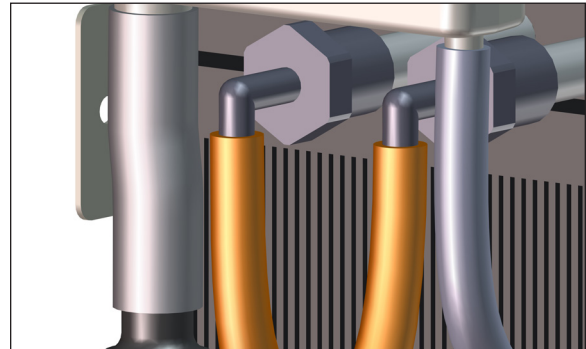

Figure 129 - Step 1 Reconnect TE tubing
1. Reconnect the tubing that goes from the TE module to the pump and quick disconnect (Figure 129).